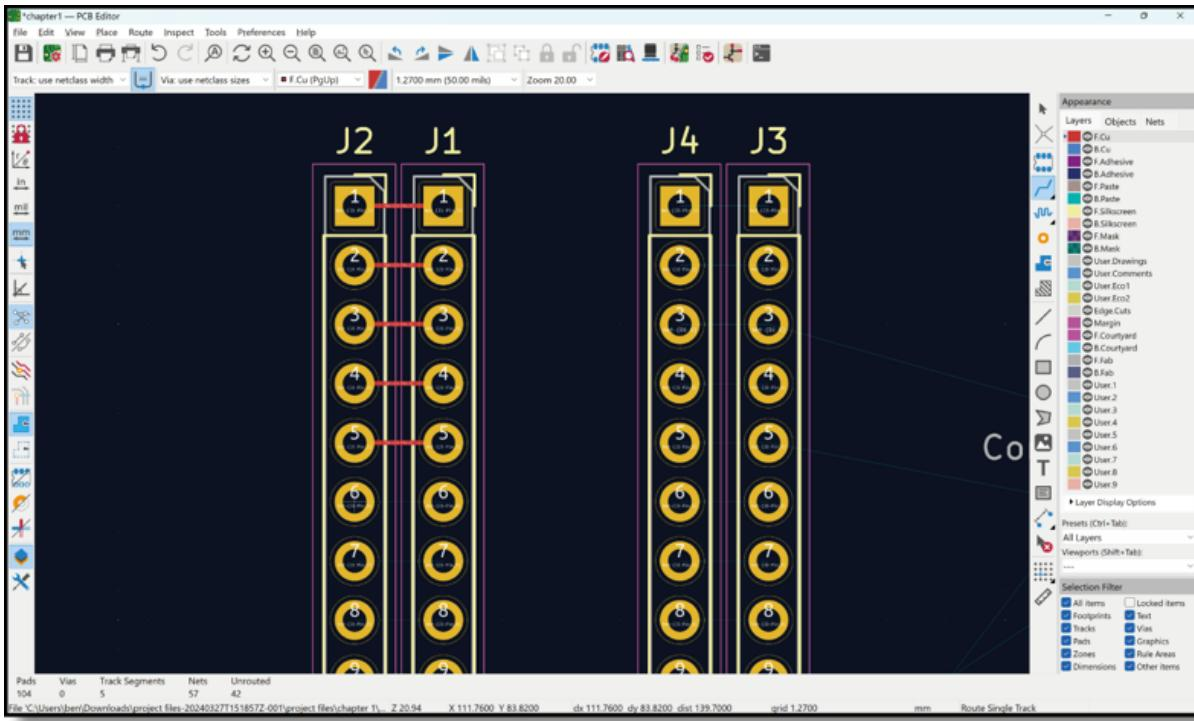

Figure 2-6: Connecting up the pads on the board
Next, you can wire the pads on the opposite footprints together (Figure 2-6). To do this, select the Route Tracks (X) icon, then click the centre of a pad and drag the track over to the centre of the opposite pad. The track should be red, indicating that it's on the top copper layer. If you, for example, were to move to the B.Cu (PgDn) layer, the default colour for tracks on the lower copper layer is blue. Continue and connect all pads together, noticing that the rat's nest lines disappear as you do so.